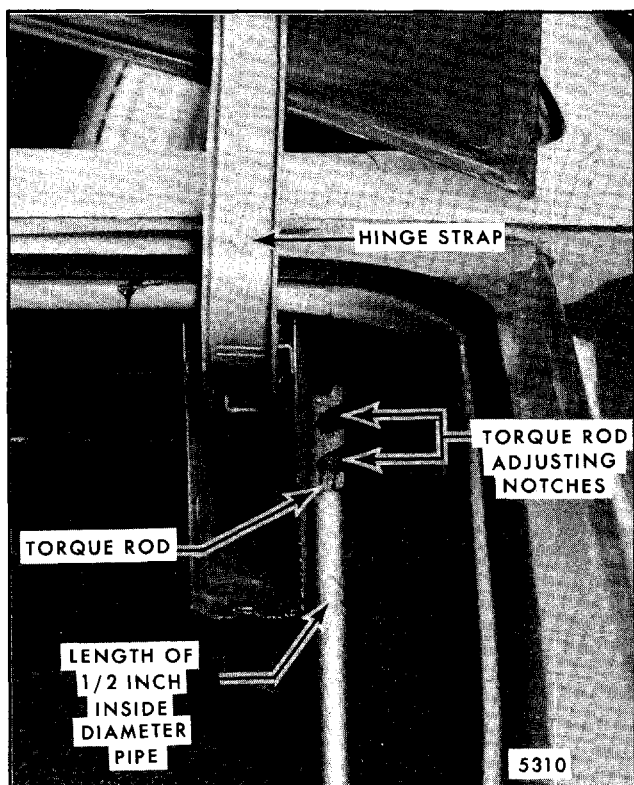

Fig. 7-48-Rear Compartment Torque Rod Adjustment - Typical A, B, C Styles
- f. On all other A,B,C styles, except Cadillac, use 1/2" inside diameter heavy wall pipe (refer to Fig. 7-48).